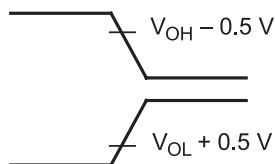

Figure 12
- 14 The data hold parameter, t_{DHW}, is measured to disable levels shown in Figure 12, rather than to the traditional data invalid levels.